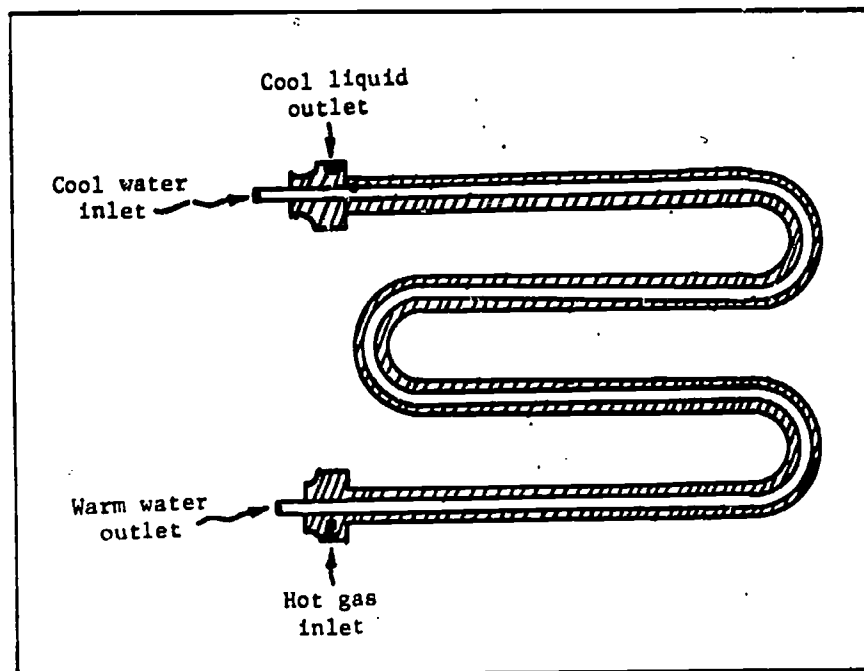

Fig 2-10. Cutaway of a tube-within-a-tube condenser.
- (2) Tube-within-a-tube condensers (fig 2-10). With this type of water-cooled condensers, one tube is inserted into another. Cooled water circulates in the inner tube and the refrigerant vapor in the outer tube. This type condenser can be constructed in cylindrical, spiral, or in a rectangular style using soft copper tubes. They can also be constructed by using straight copper pipes employing an end plate water manifold. These condensers employ a counter-flow method of condensing the refrigerant vapor. That is, the water enters the condenser where the refrigerant leaves and the refrigerant enters where the water leaves.